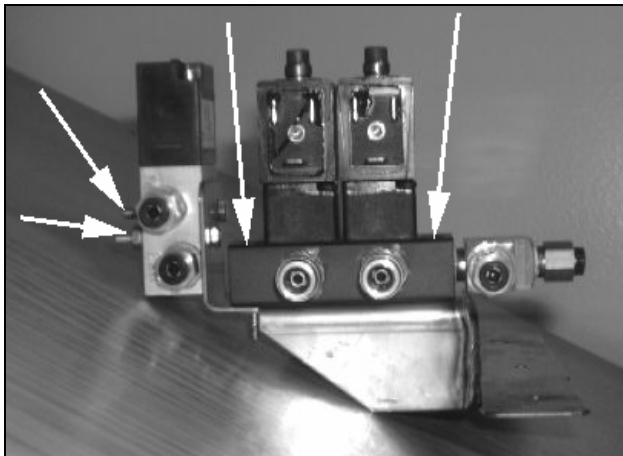

FIGURE 4: VALVE DISMOUNTING.
9. Unscrew the existing 2-valve manifold assembly. Remove the *Humphrey* valve two (2) mounting nuts and screws (Fig. 4).